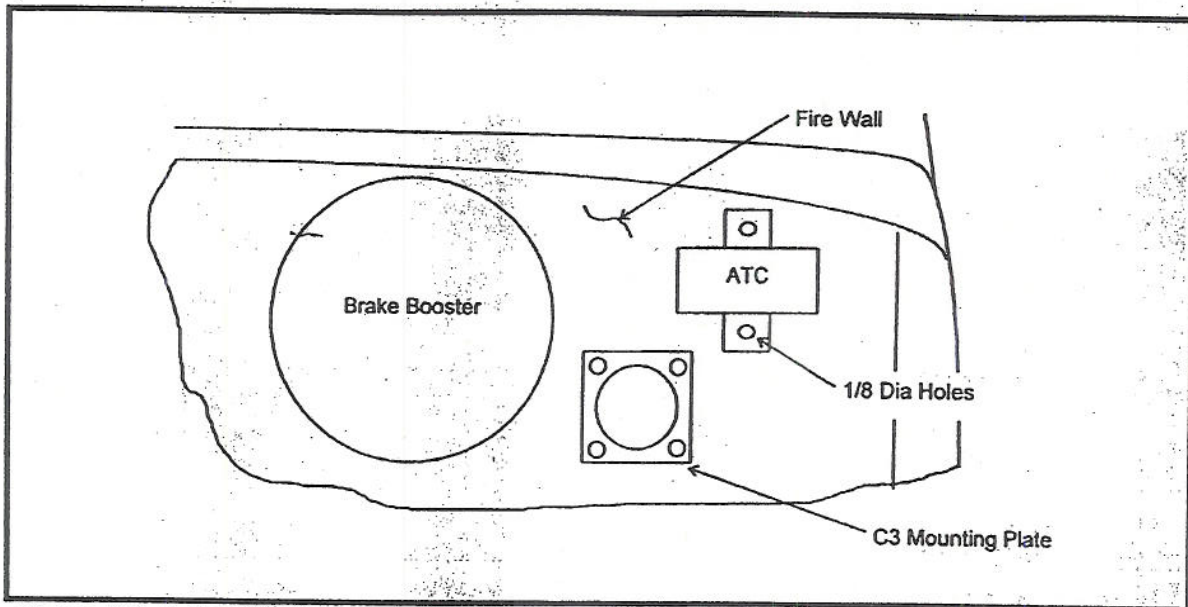

Figure 6-4- Automatic Temperature Control mounting
6. Mount the Automatic Temperature Control (ATC) to the firewall in the location shown in figure 6-4. Drill two 1/8" holes in the fire wall and mount using #10-11 self tapping screws.